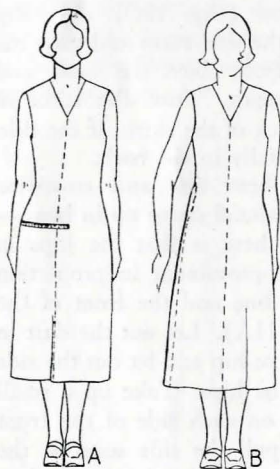

FIG. 13.—Dress swings to one side because of irregularity in size of hips.
14. Dress swings to one side and it seems impossible to keep the center front and center back in position at the same time.—The usual cause is that one hip is larger than the other. Determine how much larger the one hip is than the other by placing the tape at the center front and measuring to center back, first around one side and then the other. Open the seam of the dress on the side of the larger hip and let out the seam as much as is necessary to bring the dress in the correct position (Fig. 13).